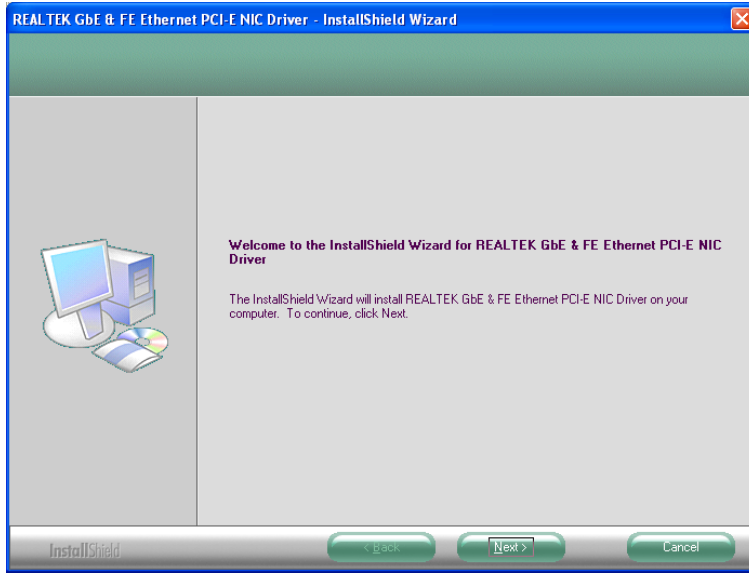

Figure 6-15: LAN Driver Welcome Screen
Step 3: The **Welcome** screen in **Figure 6-15** appears.